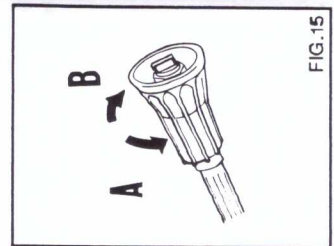

FIG. 15
- 2) Start the cleaner, select low pressure (fig. 15 pos. 2) and spray the dirty surface with the product, working from the bottom to the top.
### HOW TO USE THE ADJUSTABLE HEAD (fig. 15).